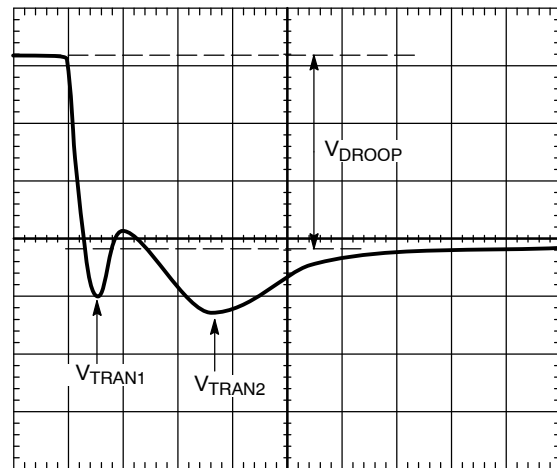

Figure 29. Transient Setting Waveform, Load Step
1. With the dynamic load set at its maximum step size, expand the scope time scale to 2 $\mu\text{s}/\text{div}$ to 5 $\mu\text{s}/\text{div}$. This results in a waveform that may have two overshoots and one minor undershoot before achieving the final desired value after V_{DROOP} (see Figure 29).